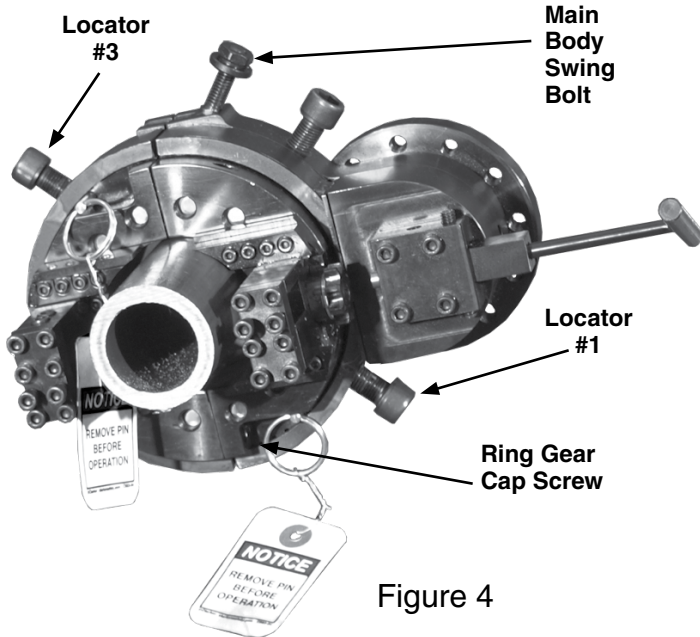

Figure 4
2. Lightly tighten any two adjustable locator pads directly across from each other (Figure 4, Locators 1 & 3) to secure the clamshell while keeping it roughly centered on the work piece. Lightly tighten the other two locators. **DO NOT TIGHTEN** the locators completely until the machine has been centered and squared.